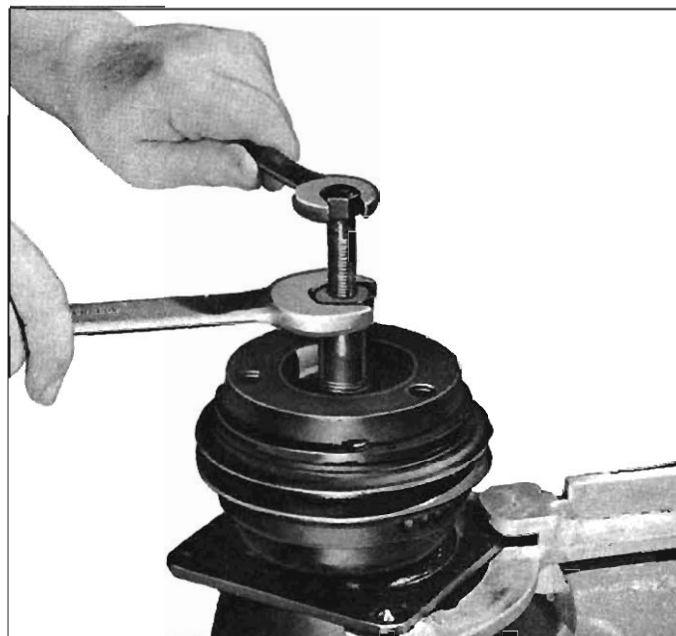

Fig. 11-32—Removing Hub and Drive Plate Assembly
4. Tool J-9401 may now be used to remove the hub and drive plate assembly (fig. 11-32).